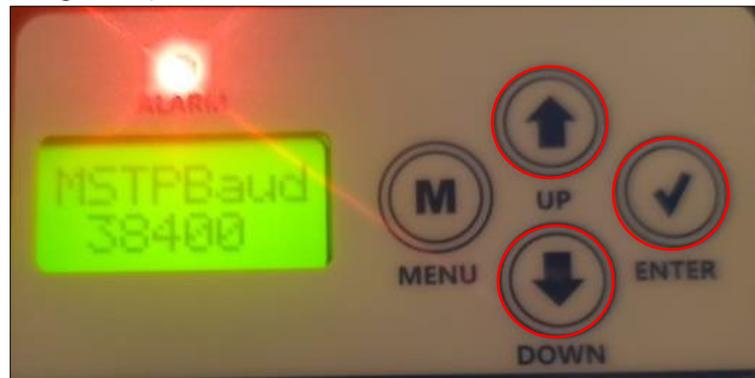

Figure 50: Setting The MSTP Baud On VCCX
6. Hit Enter and the MSTB Baud screen will display. Adjust the MSTP Baud by hitting the up and down arrows on the display keypad (see figure 50).